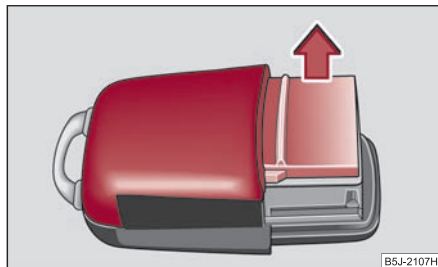

Fig. 34 Cover of the transmitter housing
- Take off the cover of the transmitter housing ⇒ fig. 34 in direction of arrow.